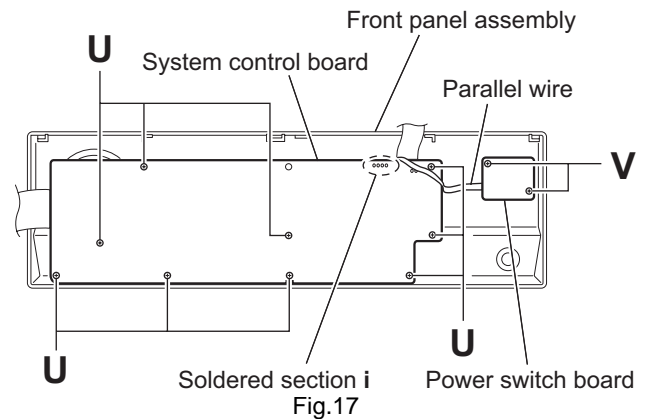

Fig.17
- (2) From the back side of the front panel assembly, remove the nine screws **U** attaching the system control board. (See Fig.17)
- (3) Remove the solders of the soldered section **i** on the system control board and disconnect the parallel wire. (See Fig.17)
- (4) Remove the two screws **V** attaching the power switch board. (See Fig.17)